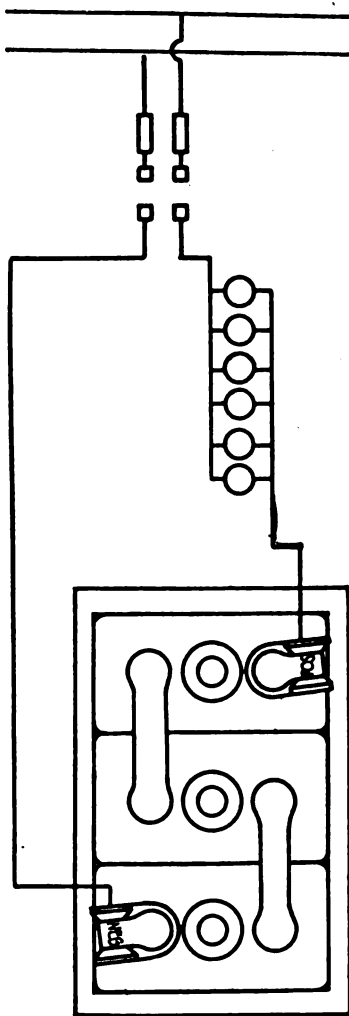

Fig. 480. Diagram of Connections for Charging Six-Volt Storage Battery from Lighting Circuit
A. By inserting a double-pole single-throw switch and 10- or 15-ampere fuses on taps from the mains and ordinary incandescent lamps in series with the battery to reduce the voltage, Fig. 480.